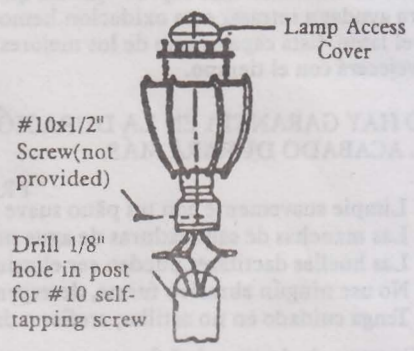

FIG.7
4. Secure fixture to post with #10x1/2 self-tapping screw. (not provided) (FIG.7)